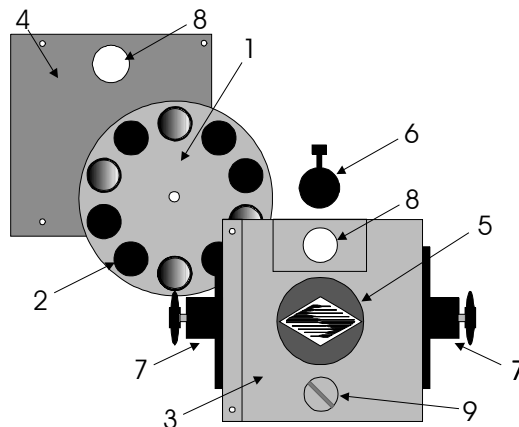
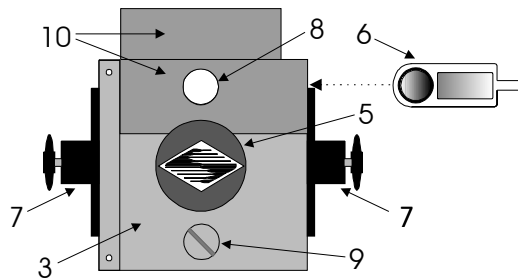

Figure 7-1. Lambda 10-2 Filter Wheel (without shutter)
Figure 7-2. Lambda 10-2 filter wheel housing (with shutter)
The basic components of the filter wheel mechanical assembly are shown below in Figure 7-1 and Figure 7-2. The only components that are to be removed by the user are the drop-in or slide in filter holders and the plug in the loading port. At no time should the user remove the cover plate from the wheel housing.
6. Drop-in filter holder (Figure 7-1) or slide-in filter holder (Figure 7-2)
At each filter position on the filter wheel, is a filter cup assembly to hold one 1” filter. The Lambda 10-2 also comes with two removable 1” filter holders that can be placed into the optical pathway to accommodate “fixed” filters, such as neutral density filters. The filter holders will be either a “drop in” style if no shutter is installed (item 6 in Figure 7-1) or a “slide in” style if a shutter is installed (item 6 in Figure 7-2).